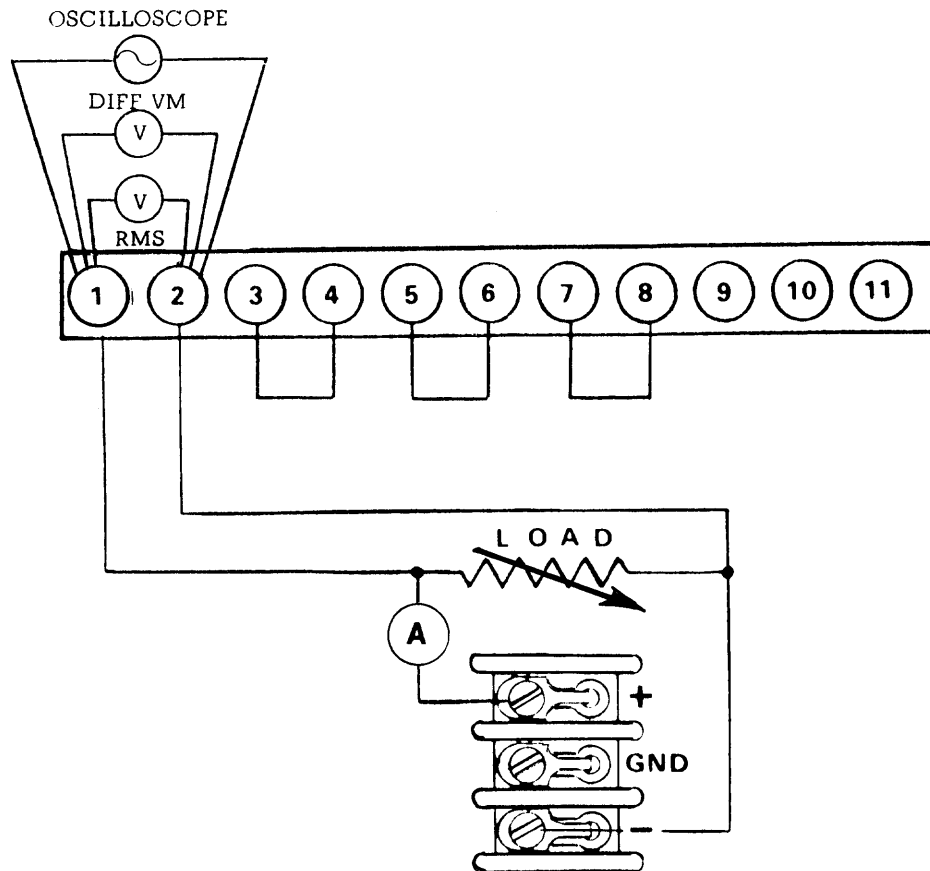

Figure 5-1 Performance Test Setup
1. Connect a sensitive differential or digital voltmeter and an RMS meter across unit output terminals per Figure 5-1. If a differential voltmeter is used, set internal voltage equal to the unit's rated output.